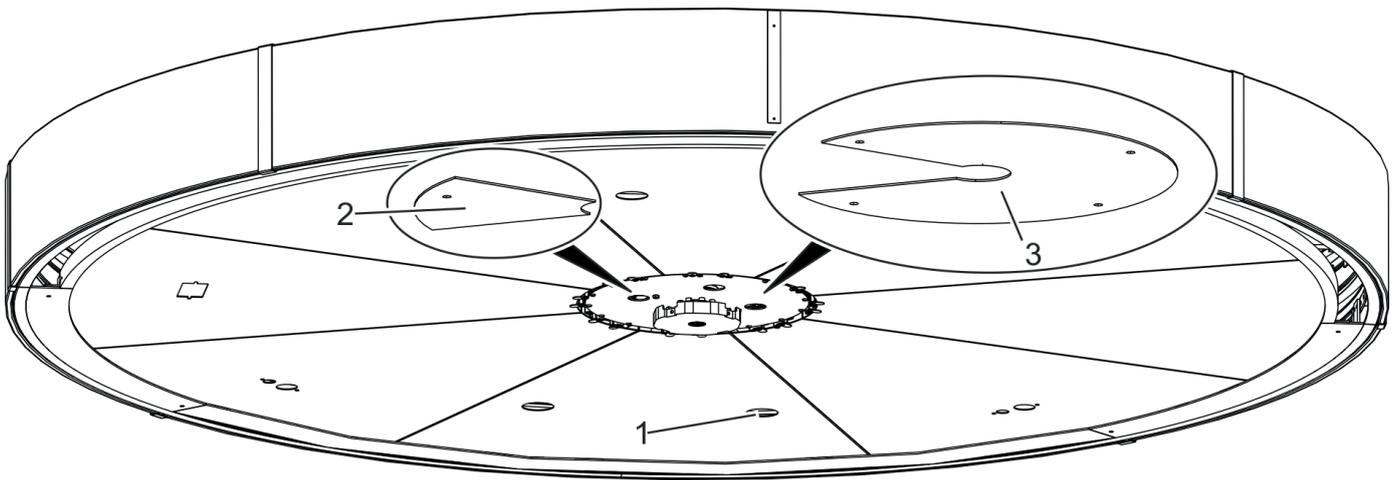

Fig. 148 Covering the operator
18. If necessary, Insert the spotlights into the existing openings in the lower ceiling (Fig. 148/1).
19. Fix cover discs (Fig. 148/3) into the holes provided from the controller side to the underside of the operator (screw pack **34053501150**).
21. Attach the guide plate onto the cover plate (Fig. 148/2).
23. Insert the cover disk (Fig. 148/2) with the affixed guide plate on the right and left under the cover plate (Fig. 148/3) and push it to the center.
24. Fix cover discs (Fig. 148/2) into the existing holes (screw pack **34053501150**).